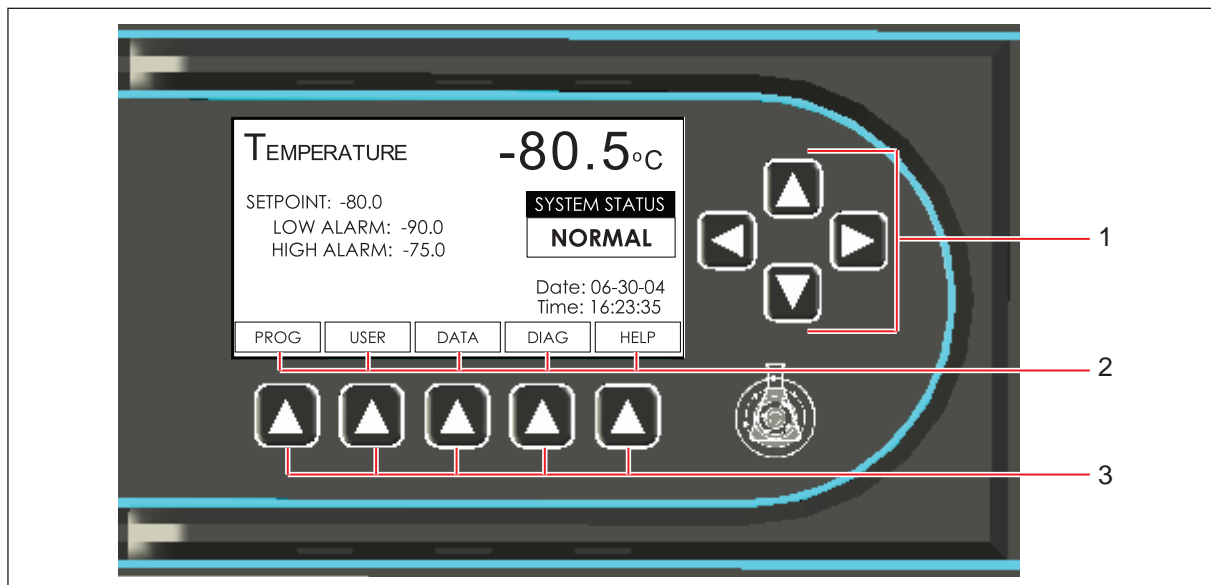

Fig. 5-1: Operating controls
All adjustable setpoints and features are controllable through the display touchpad (see Fig. 5-1 on p. 21). Four directional keys allow features to be selected or modified while menu keys provide access to specific functions listed at the bottom of the screen.
2. Use the ▲ and ▼ directional keys, (see Fig. 5-1 on p. 21) to select the setpoint you wish to adjust.